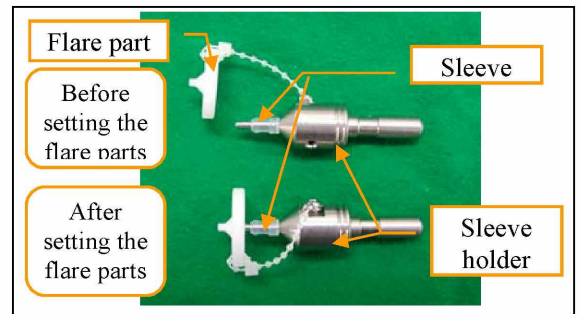

Fig. 42 - Setting the sleeve
- Install to insertion tool JT-C3 the sleeve holder and then the sleeve as shown in Fig. 42 for the state before the flare part has been set.
- After fitting the sleeve, lock the flare part at the leading end of the sleeve holder (see Fig. 42 for the state after the flare part has been set and Table 18 for the applicable parts).